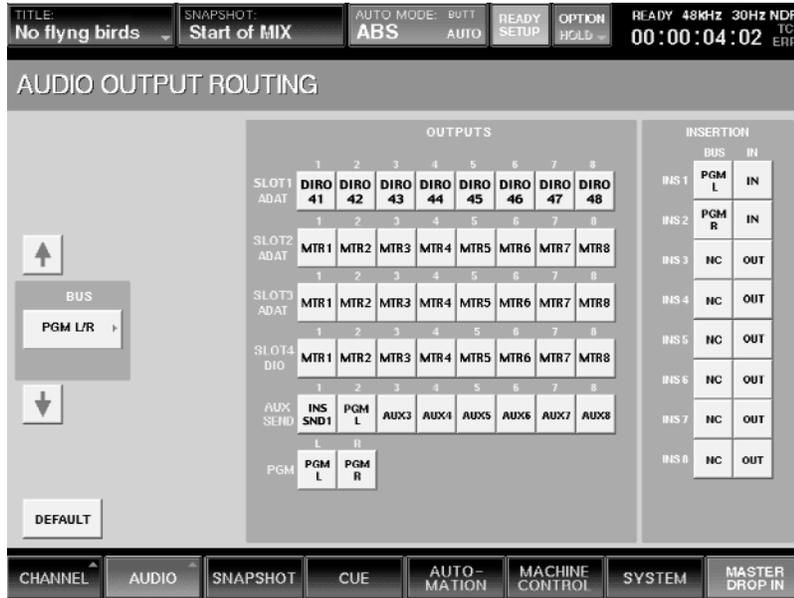

Figure 28
- From the INS SEND 1-8 Bus drop-down menu, press 1, then press AUX SEND 1 in the Outputs section (center of the screen). INS SND1 will be selected for Aux Send 1. (See Figure 28)